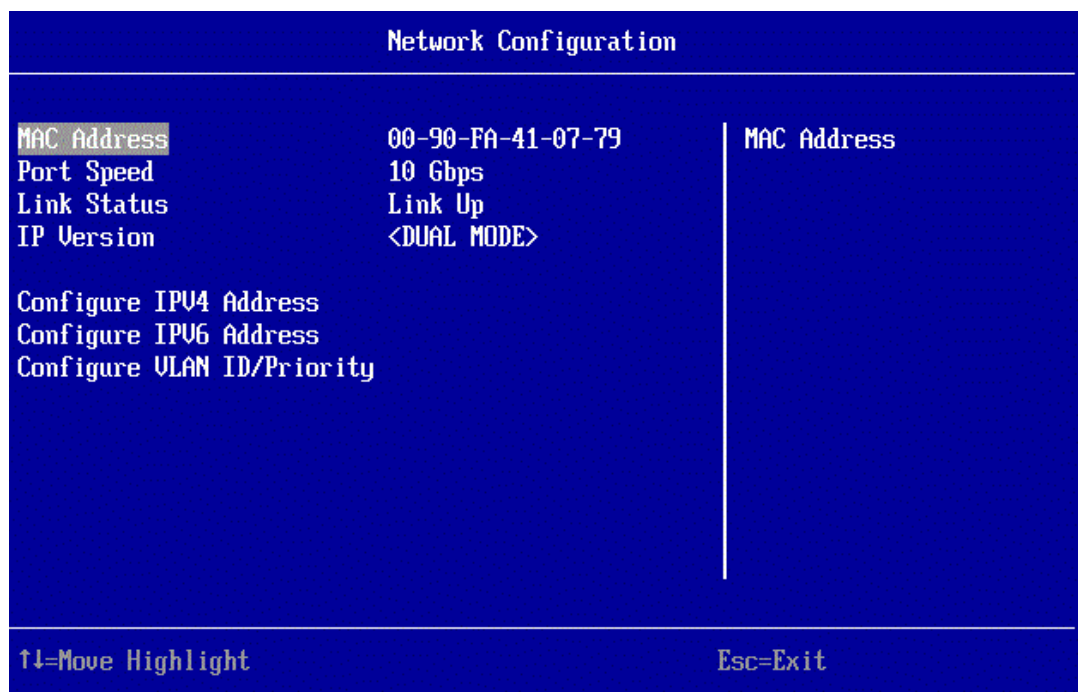

Figure 11-6 Network Configuration Screen
1. On the Network Configuration screen (Figure 11-6), select **IP version** and press **<Enter>**.
1. On the Network Configuration screen (Figure 11-6), ensure the IP version is set to IPv4 or DUAL MODE.
1. On the Network Configuration screen (Figure 11-6), ensure the IP version is set to IPV6 or DUAL MODE.
1. On the Network Configuration menu (Figure 11-6), select **Configure VLAN ID/Priority** and press **<Enter>**. The Configure VLAN ID/Priority dialog box appears.